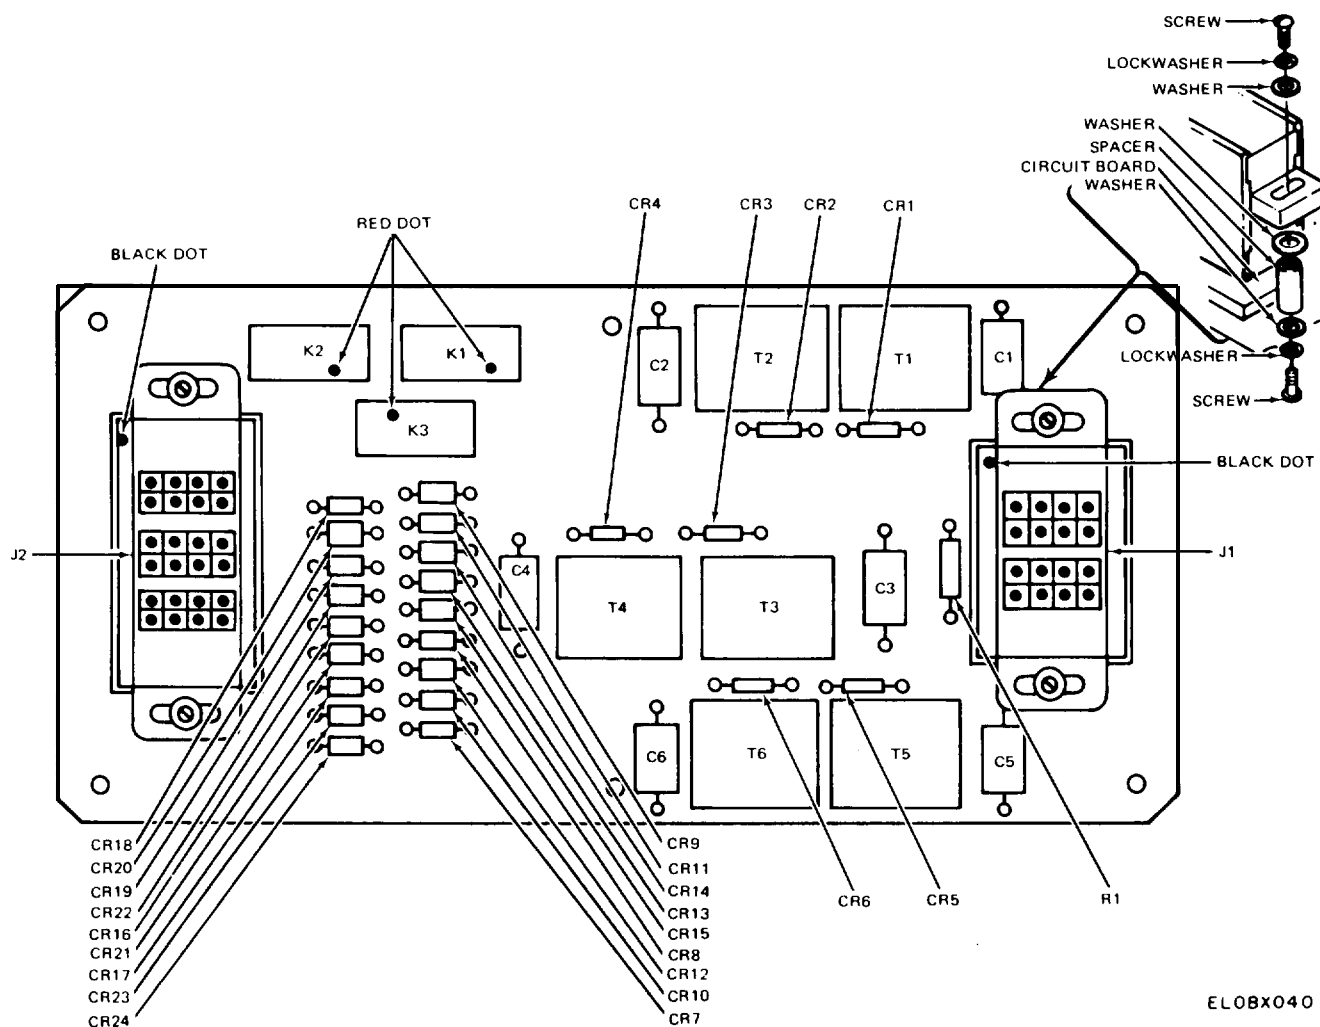

Figure 5-6. ATS circuit board assembly.
d. Further disassembly is accomplished by unsoldering connection of parts mounted to the circuit board assembly (fig. 5-6). Disassembly only to the extent required to replace a faulty part. To remove connectors J1 and J2, mounting hardware must be removed in addition to unsoldering the leads to the circuit board assembly.
(1) To remove connector J1, remove four
e. Refer to figure 5-6 to locate parts when replacement of a faulty part is found to be necessary. Parts are coated with Polyurethane, MIL-I-46058, Type PUR. It will be necessary to remove the coating when replacing a part.
a. Remount removed or replaced components on the circuit board assembly in the same location and orientation from which they were removed (fig. 5-6). During reassembly, use the same mounting hardware removed during disassembly (para 5-8).